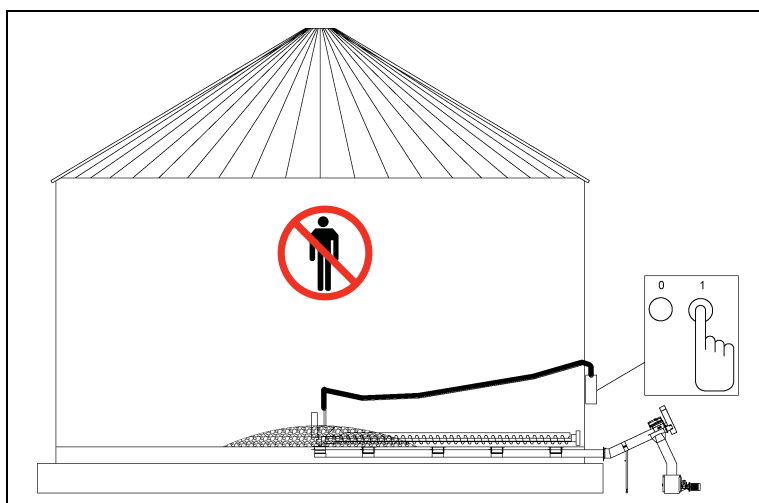

Figure 6O
15. Start sweep. (See Figure 6O.)